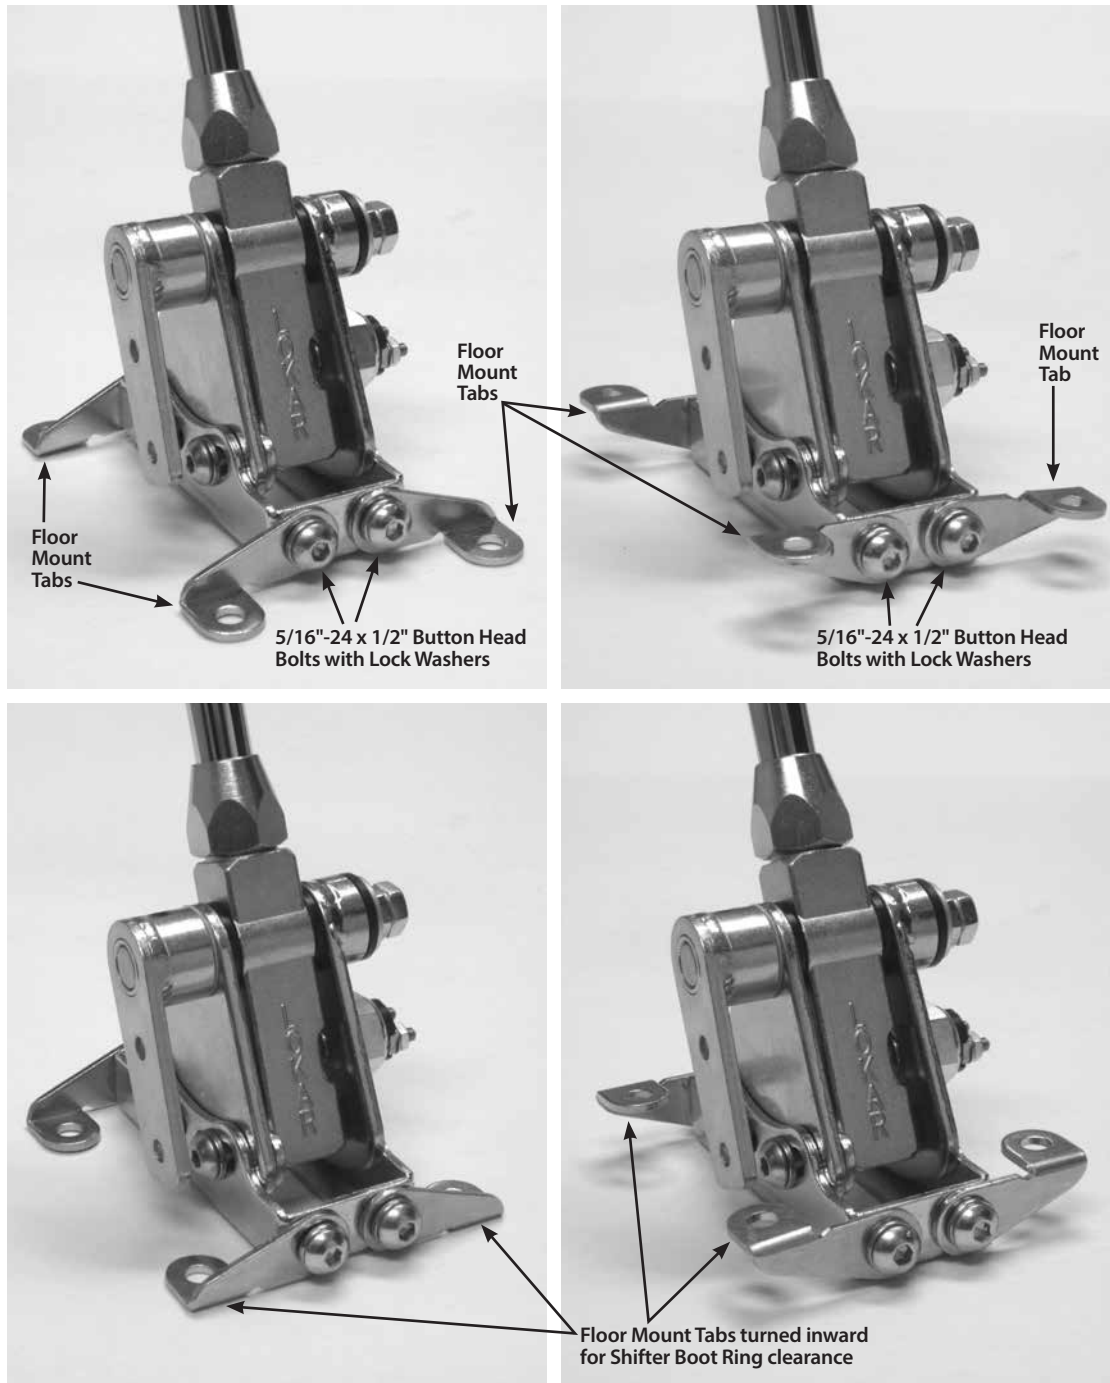

Fig. 4
**Step 3:** There are two pairs of floor mount tabs in the Shifter Kit. Which pair goes where will depend on if you are mounting the Shifter above or below the floor. See Fig. 4 to determine how the floor mount tabs need to be positioned for your particular application.
Attach the floor mount tabs to the floor mount mounting bracket as shown in Fig. 4 with the 5/16"-24 x 1/2" button head bolts and lock washers. Leave the bolts loose enough so that adjustments can be made later during the installation.